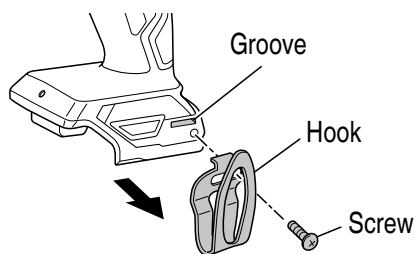

Fig. 13
- (2) Removing the hook. Remove the screws fixing the hook with Philips screw driver. **(Fig. 13)**